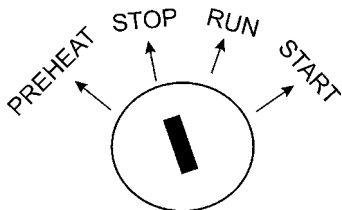

Figure 53. Ignition Switch 'STOP'
4. Turn the ignition key to 'STOP' (Figure 53).